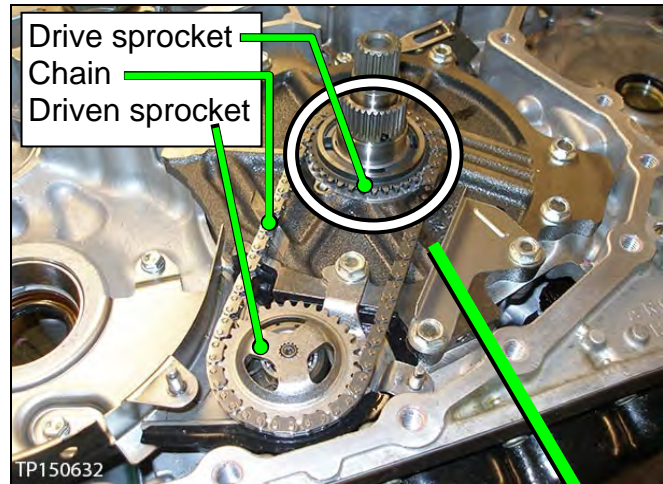

Figure 8I
9. Install the drive sprocket, driven sprocket, and chain as an assembly (Figure 8I).